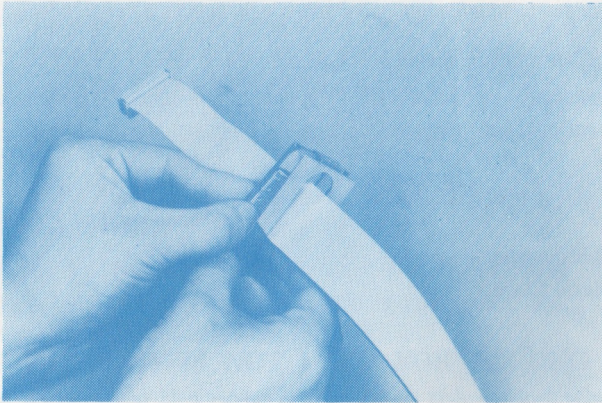

FIGURE 2 Positioning the Cable in the Clamp
- FIGURE 2 : Positioning the Cable in the Clamp
- faces the disk drive. Pull the cable through the clamp until the cable's metal flap fits between the two sides of the clamp as shown in Figure 2. (The metal flap should fit comfortably into the curl formed by the outer edges of the clamp)